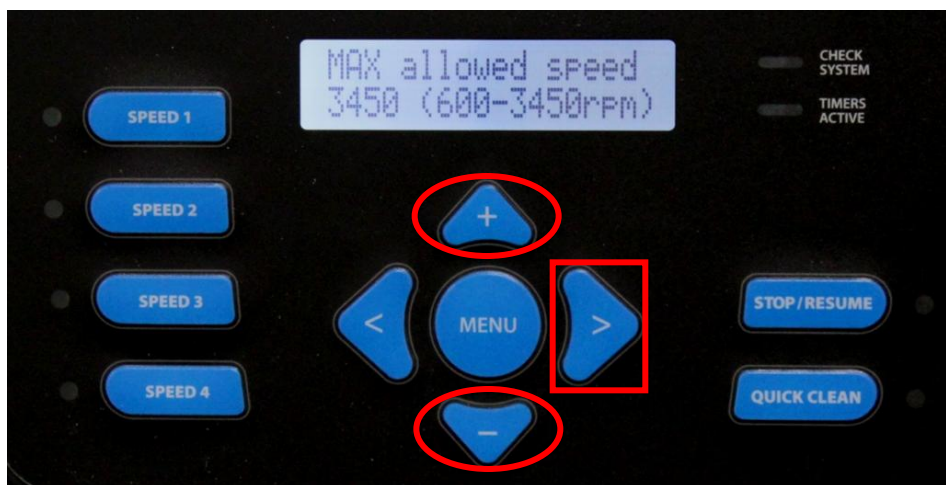

Fig 40
9. You will now see the MAX allowed speed. You can set this from 600-3450 RPM or 17 to 100% by pressing the  &  buttons (fig 40). See page 3 for the max allowed flow for pipe. SVRS model will not go lower than 1000 rpm (29%) Press the  button to continue.